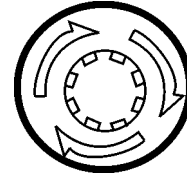

**Figure 53. MPEC Control Switch (Off/Reset)**
4. Place the **MPEC Control Switch** (Figure 53) to the **OFF/RESET** position.